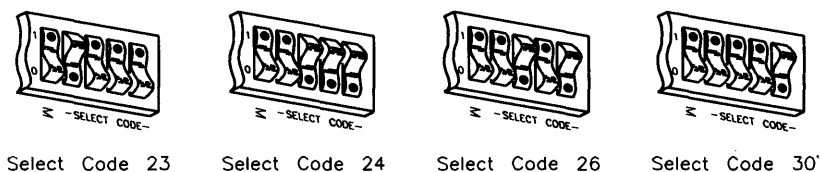

Figure 5-34.
- b. Set the LAN Select Code switches to one of the four select codes given in Figure 5-34, unless you have used them elsewhere.